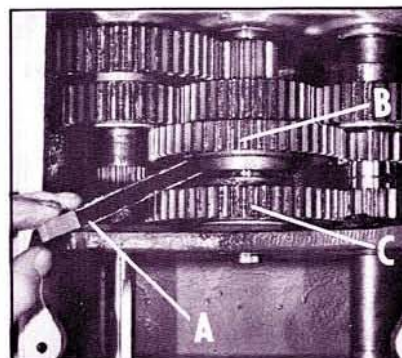

Fig. 14
14. With a wedge (A) Fig. 14, spread the two gears (B) and (C) apart, as shown.